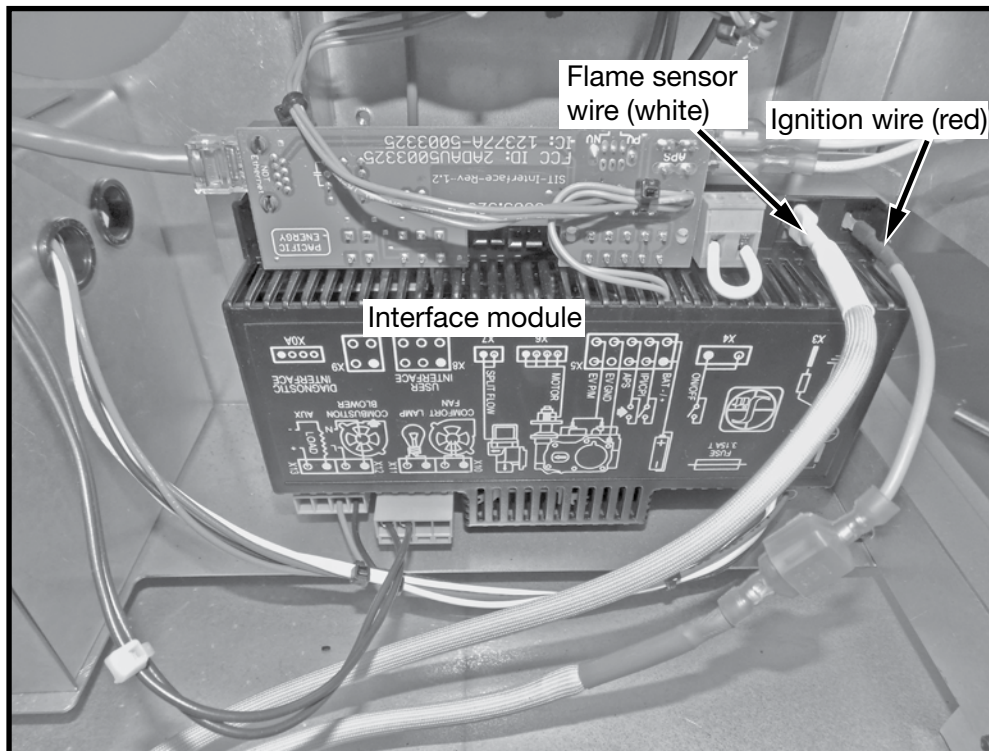

Figure 30: Disconnecting flame sensor and ignition wires at interface.
5. Disconnect the flame sensor wire and the ignition wire from the interface module (Figure 30) and withdraw the wires back through the bulkhead plate and into the rebox area.